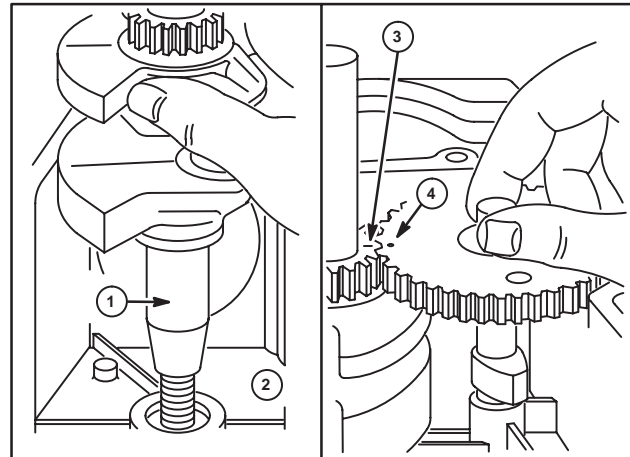

Fig. 13
- Apply oil to the crankshaft journal (1).
- Install crankshaft to magneto side of engine (2), using Seal Protector Kit, Tool #19356. See Table No. 4, Page 27, Specifications, for correct seal protector color code.
- Turn crankshaft until timing mark (3) is facing carburetor side of cylinder. Install cam gear (4) with timing mark aligned to crankshaft timing mark, Fig. 13.
NOTE: Many Model Series have a removable timing gear. Install timing gear with inner chamfer toward crank pin. This assures the timing mark will be visible, Fig. 13.